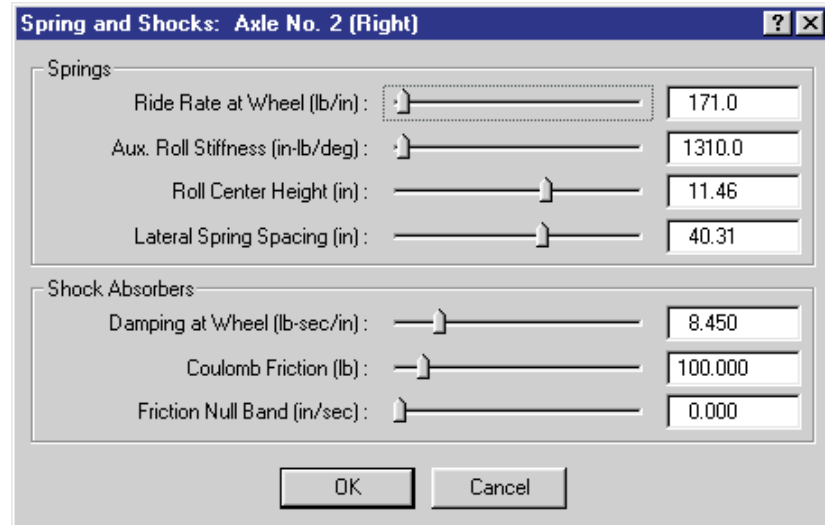

Figure 5-5 Springs and Shocks dialog, used for editing the current auxiliary roll stiffness due to the anti-sway bar.
- In the *Auxiliary Roll Stiffness* data field, replace the existing value, 0.00, with the calculated value for a 1-inch anti-sway bar, 1310.0 in-lb/deg. The dialog now appears as shown in Figure 5-5.